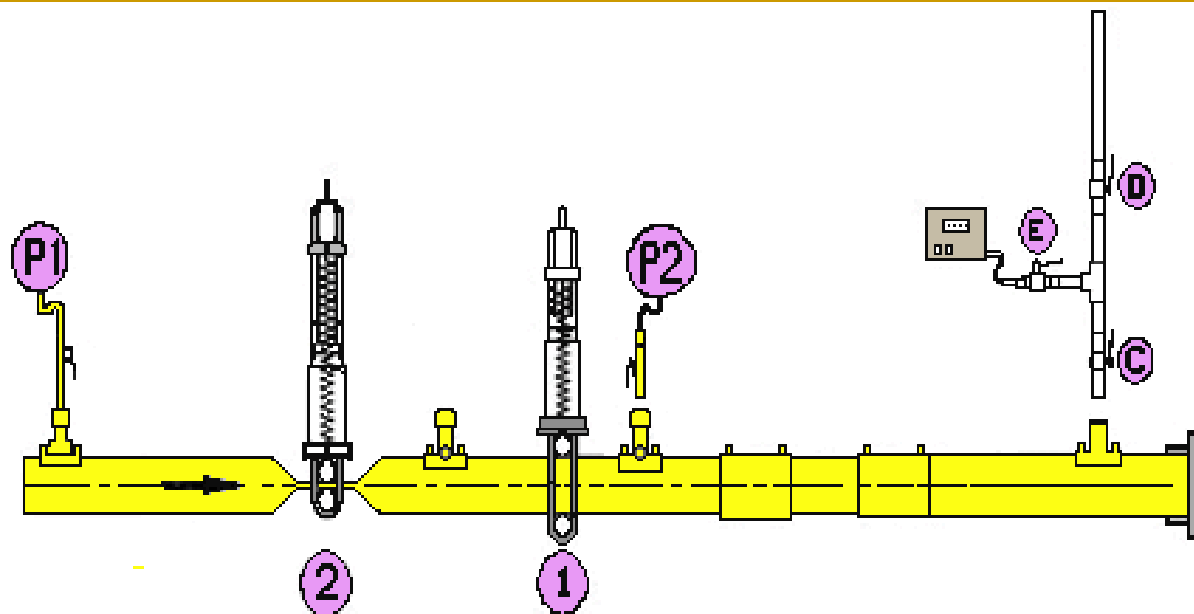

Figure 99- Commissioning Main by the Use of Double Squeeze Off
2. Fit purge vent pipe(s) in accordance with Figure 99.